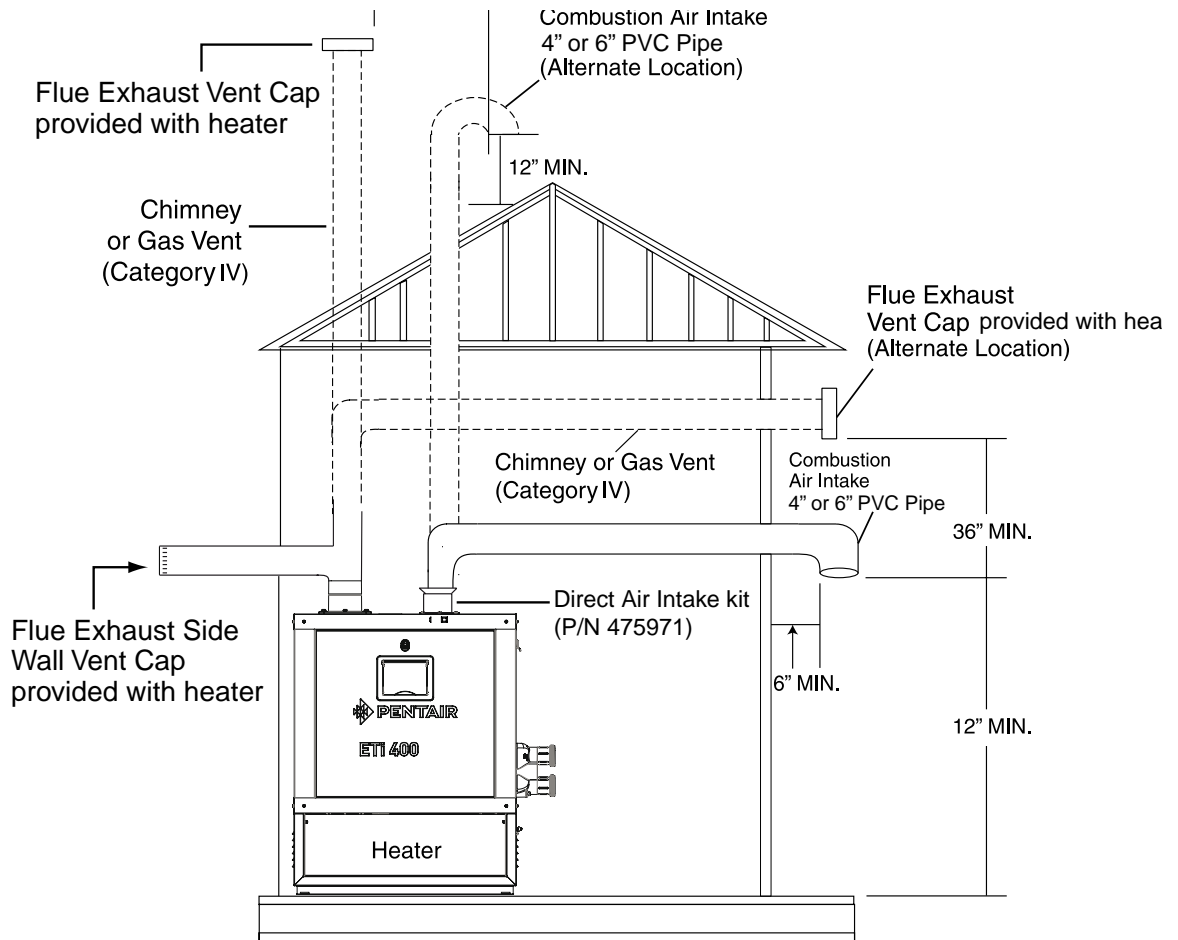
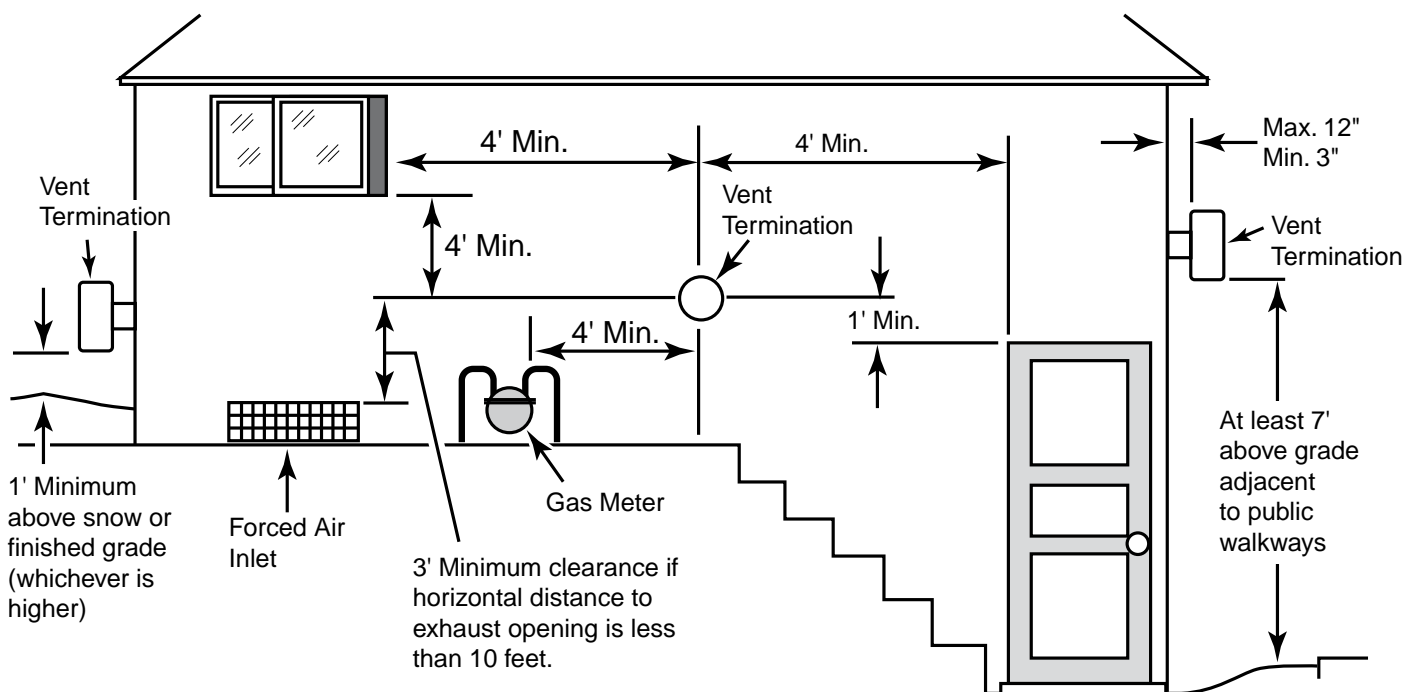
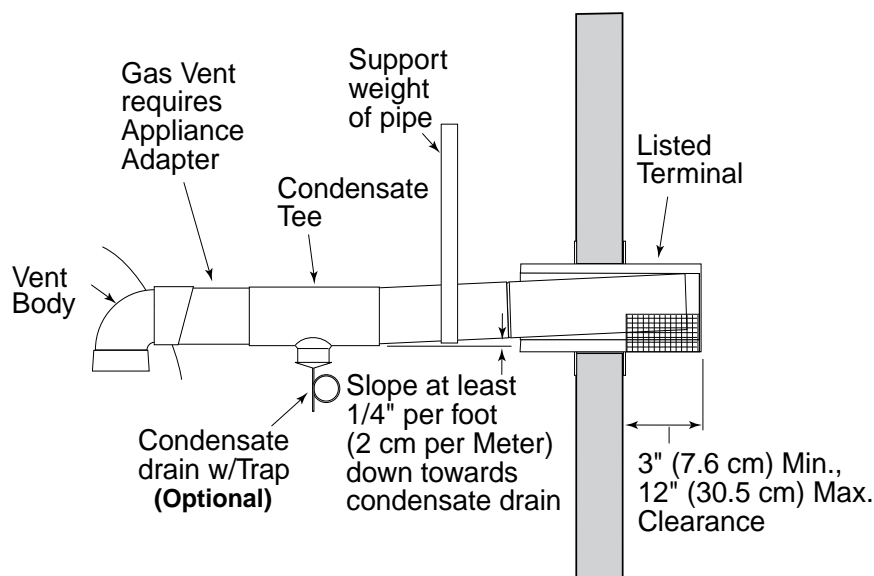
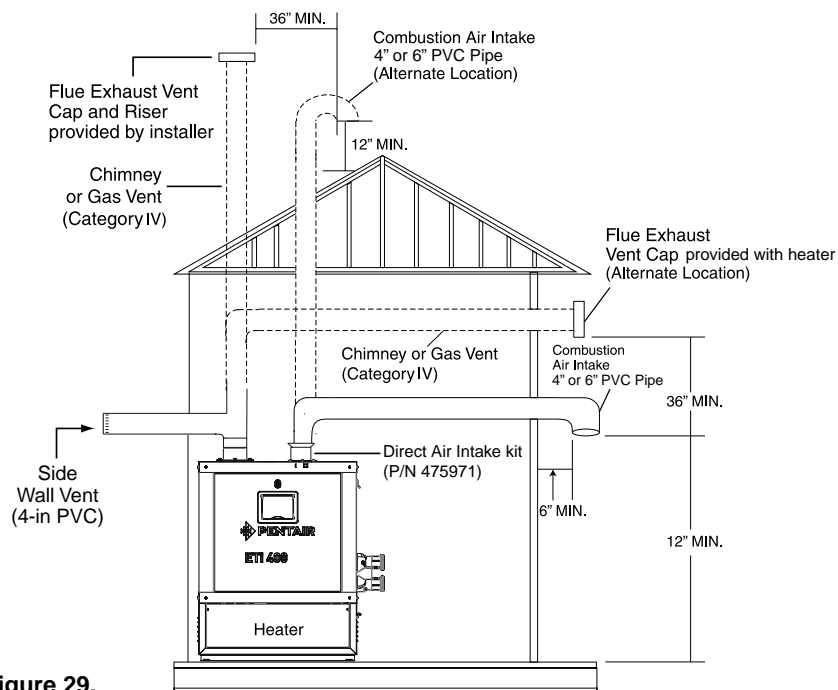

Figure 24.
Figure 27.
Figure 28.
Figure 29.
An appliance that operates with a *positive* vent static pressure and with a vent gas temperature that allows excessive condensate production in the vent, see Figure 24 (page 30) and Figure 27, page 34.
The air intake opening MUST be installed at least 1 ft. above the roof line or normal snow levels for free air flow. The Category IV exhaust vent termination cap must have at least 3 ft. (1 m) minimum vertical clearance from air intake duct, see Figure 24.
## **HORIZONTAL OR VERTICAL VENTING (CATEGORY IV) - POSITIVE PRESSURE** (See Figure 28, page 35 and Figure 29, page 36)
3. **Vent Termination:** Vertical (See Figure 27 below and Figure 29 on page 36), for height of vent termination above the roof. Use an *Approved* vent terminal specified by local and national codes and your manufacturer's instructions. A roof termination must be vertical. In Canada, the Vent Cap location shall have a minimum clearance of 4 feet (1.2M) horizontally from electric meters, gas meters, regulators, and relief openings.
The terminal must be located (U.S. – See Figure 27 on page 34):
- at least 3" and at most 12" out from the wall (see Figure 29 on page 36), following the vent manufacturer's instructions
The terminal must be located (Canada – See Figure 27 on page 34):
The flue direct vent cap **MUST** be mounted on the exterior of the building. The direct vent cap cannot be installed in a well or below grade. The direct vent cap must be installed at least 1' (0.3 m) above ground level and above normal snow levels, see Figure 27, page 34. The direct vent cap **MUST NOT** be installed with any combustion air inlet directly above a direct vent cap. This vertical spacing would allow the flue products from the direct vent cap to be pulled into the combustion air intake installed above.
It is recommended that the intake vent (see Figure 29 below) be insulated in colder climates.